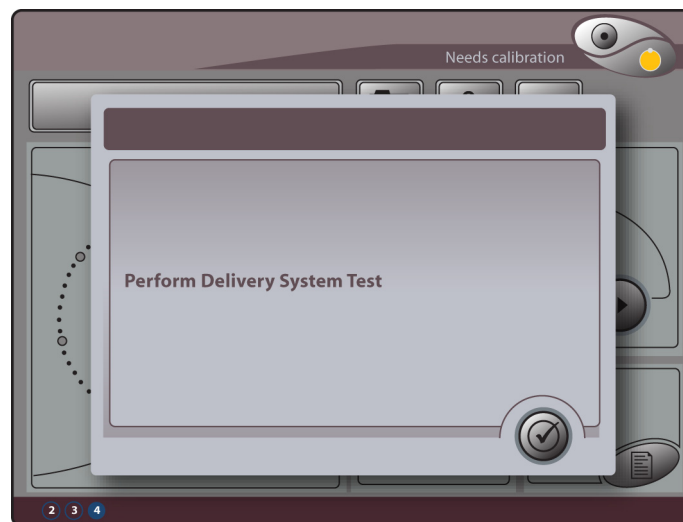

Figure 3-4: Delivery System Test Dialog
4. A dialog prompts you to perform a Delivery System Test (see **Figure 3-4**). During this test the system analyzes the Handpiece that has been inserted into the Calibration Port.